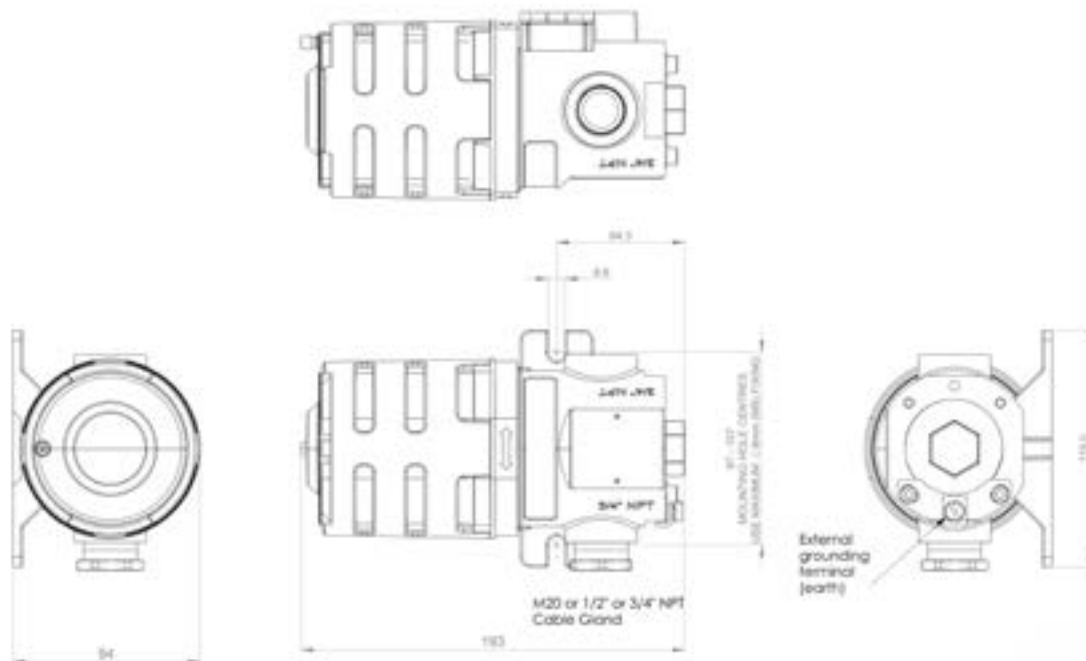

Figure 1: IR Plus dimensioned view - All dimensions in millimetres
**NOTE:** IR Plus should be installed at the designated location with the sensor barrel horizontal +/- 15° (orientation shown on (Figure 1)). This ensures that dust or water will not collect on the optical components.
With the IR Plus oriented as shown in Figure 1 (a M20 cable entry at the top), the 3-core field cable should be terminated using the removable connector as follows: